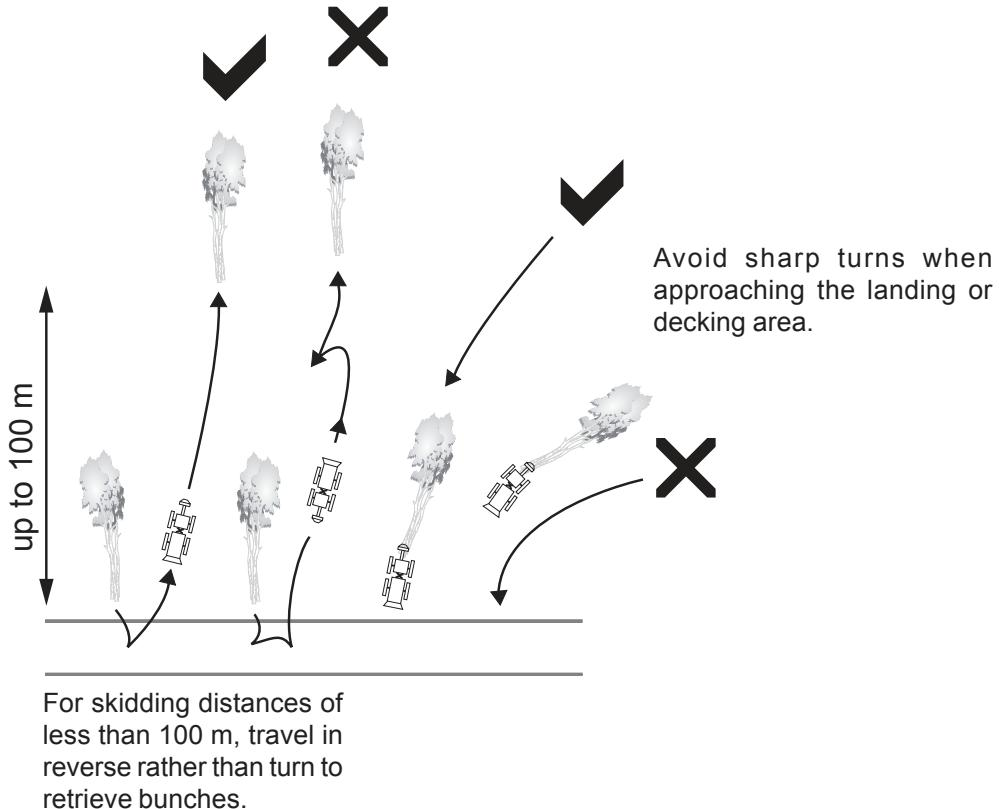

Figure 34. Minimize turning in the block to reduce soil damage.
- For skidding distances less than 100 m, return to the cutblock in reverse (back-up), rather than turn the skidder in the block, to retrieve the next bunch (**Figure 34**).